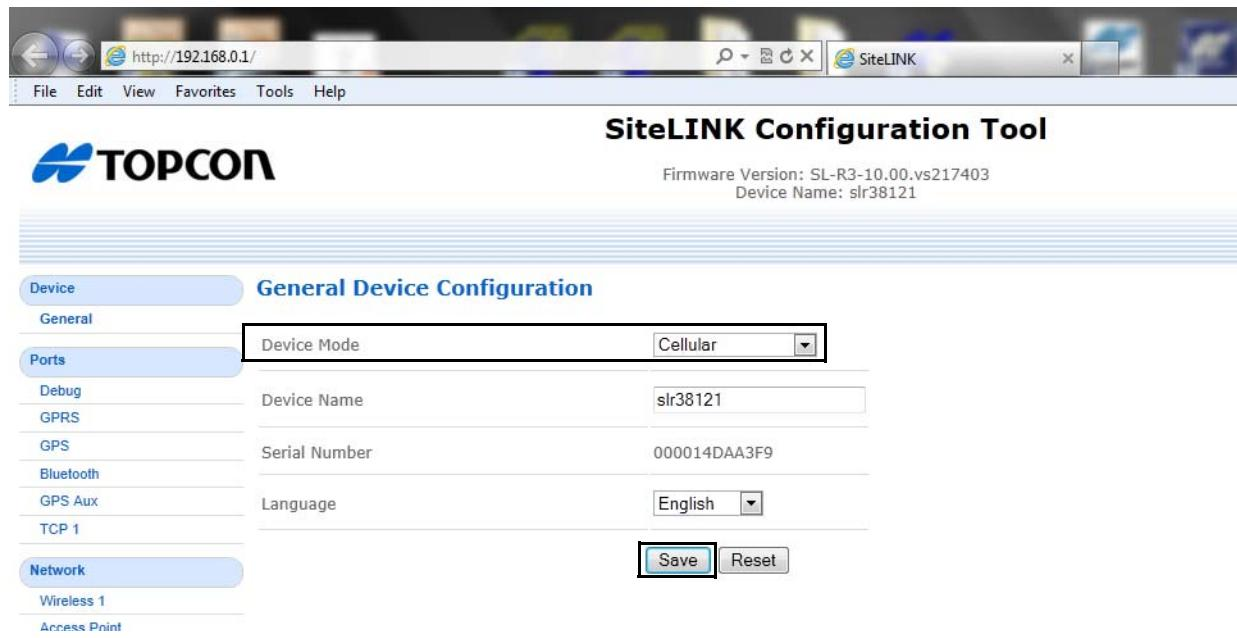

Figure 6. Device Mode - Cellular
2. Check that the **Device Mode** is set to **Cellular** (factory default). See Figure 6.